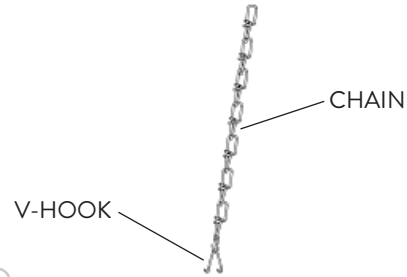

FIG. 6
- 1 The V-Hook Mounting Kit for the FSLA/2 fixture consists of the Hook and Chain (Fig. 6).